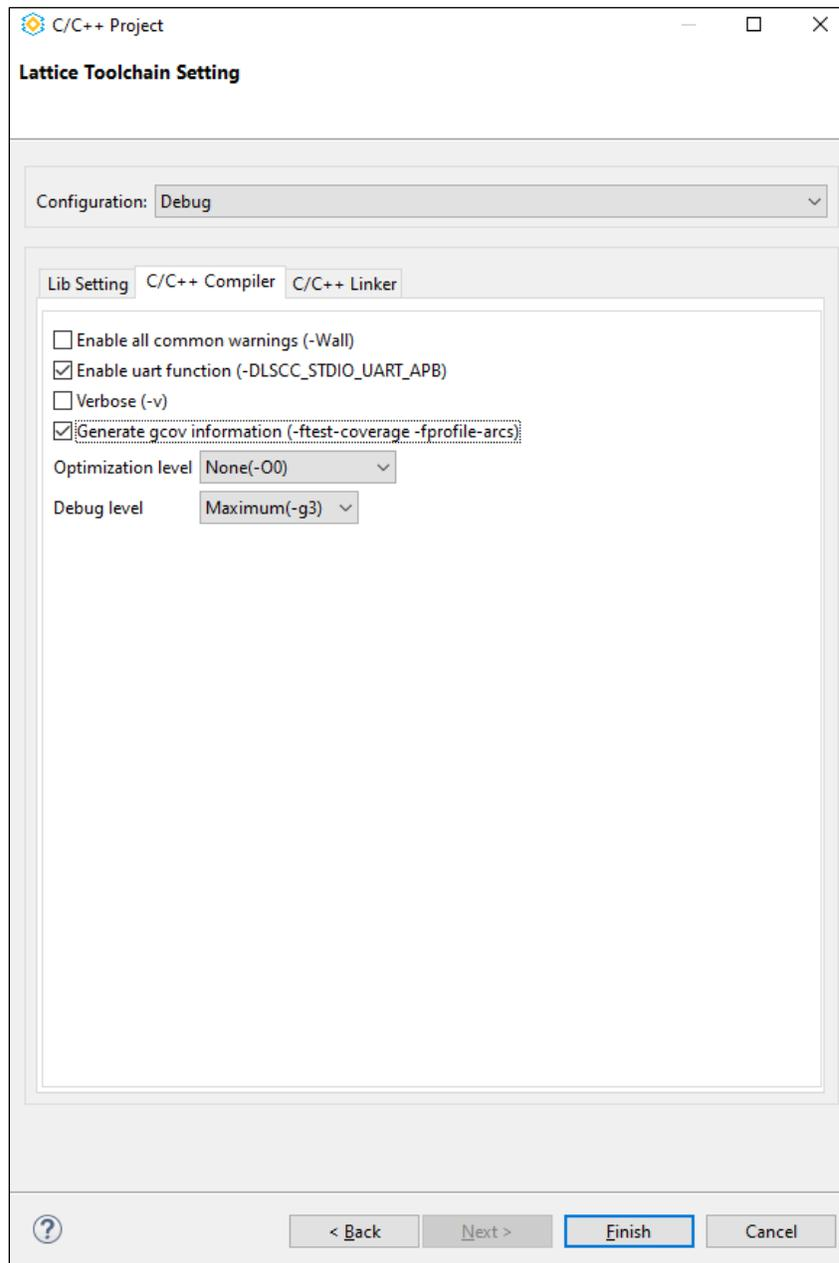

Figure 5.2. C/C++ Compiler
4. Click **Next**. The Lattice Toolchain Setting dialog opens. Choose the **C/C++ Compiler** tab (Figure 5.2).